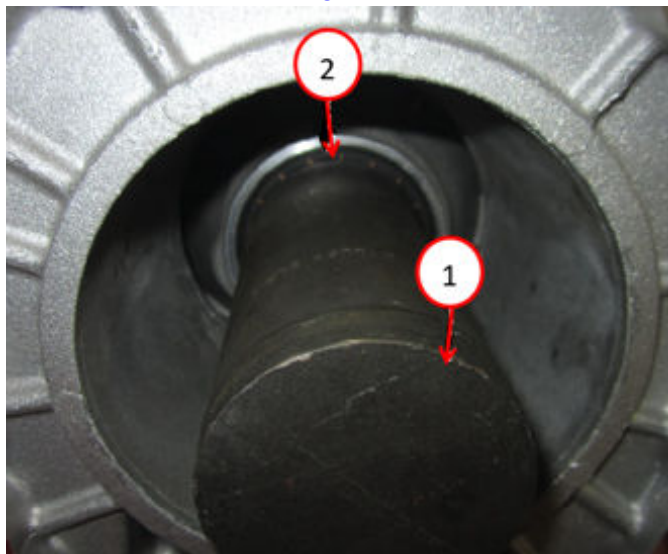

Fig. 52
78. For 4X4 ONLY if equipped, position the extension housing and install the extension housing bolts Fig. 52.